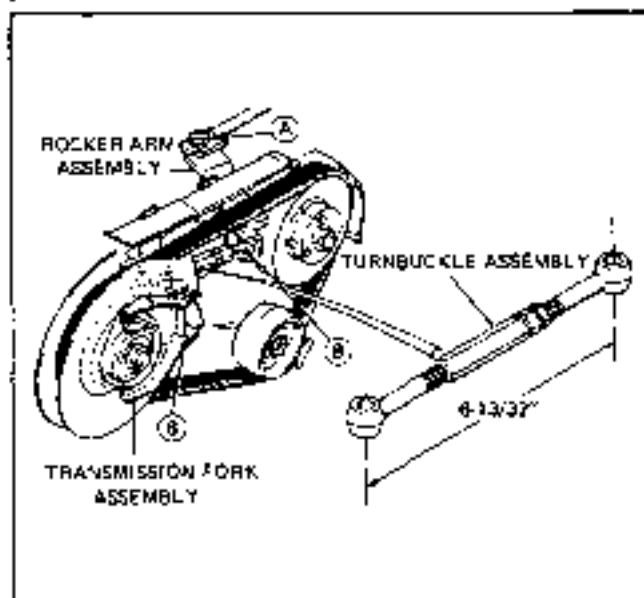

FIGURE 2
6. Rotate the shift ring and cover assemblies until the setscrew over the shaft keyway is aligned with one of the holes in the pulley hub. Loosen setscrew. The other setscrew in the collar need not be loosened at this point as it merely holds the collar in position on the Spicer Assembly. Fig. 2.
A. Remove the 1/8" nut and bolt from the arm and rocker assembly, reference letter "A", Fig. 2.
B. Remove the locknuts, reference letter "B", Fig. 2 and lift out bolt and rocker assembly.
placed forward when assembling in the tractor. Assemble both eyebolts with the same length of threads engaged in the turnbuckle. (See Fig. 2.)
IMPORTANT: After tightening the locknuts, reference letter "B", Fig. 2, insure that there is free movement of the fork assemblies.